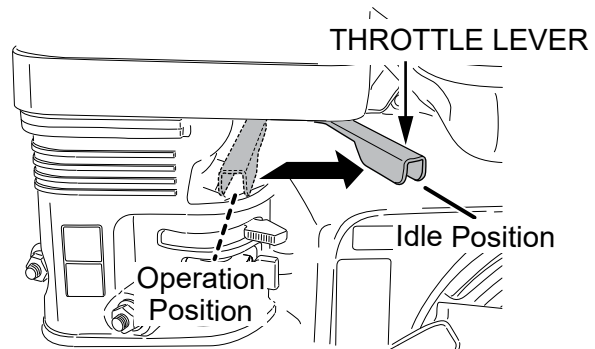

Figure 18. Throttle Lever (IDLE)
4. Move the throttle lever to the idle position (Figure 18).